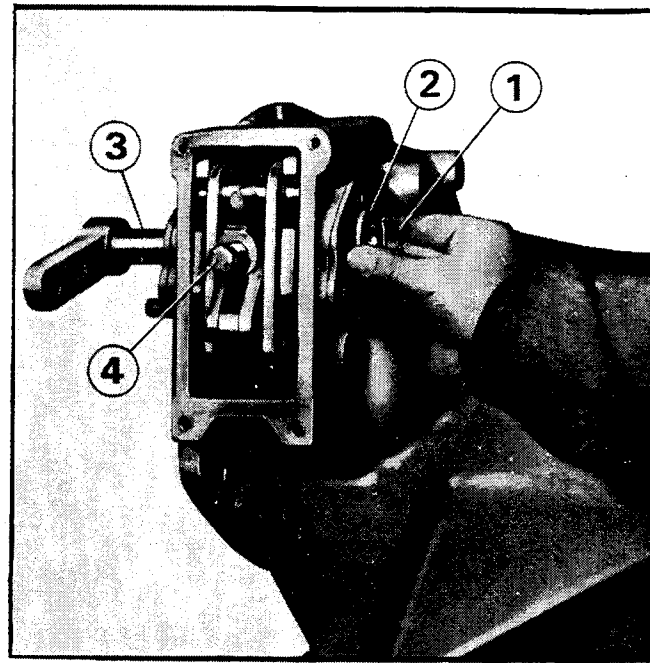

Fig. 14 — REMOVING BELCRANK
4. Cut lock wire and remove set screw, No. 4, Fig. 14. Remove snap ring, No. 1, spacer, No. 2, and bellcrank, No. 3.
NOTE: Secure setscrew, No. 4, Fig. 14, with lockwire.